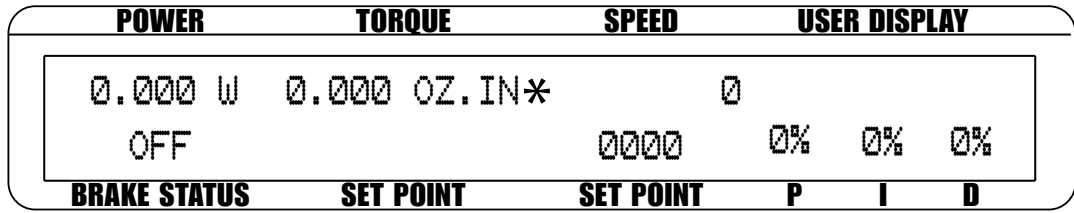

Fig.6-6 Tare Function Enabled
3. "\*" indicator will be displayed as in *Figure 6-6 Tare function enabled*.